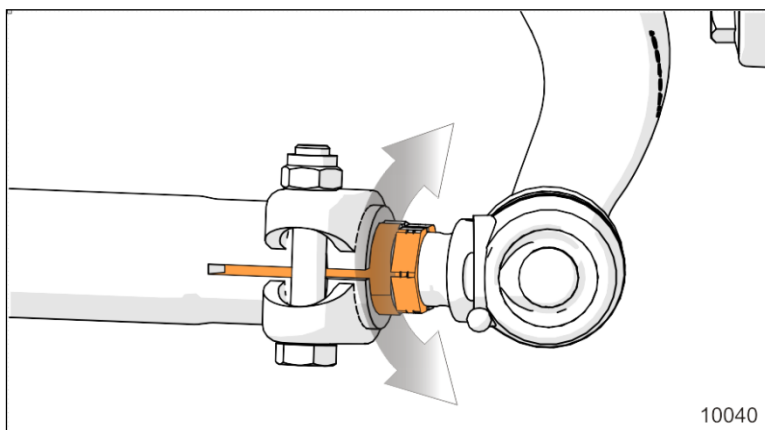

FIGURE 8: FINE ADJUSTER SLEEVE ON TIE ROD
- b. Turn the adjuster sleeve (Figure 8) until the specified toe-in measurement is obtained.